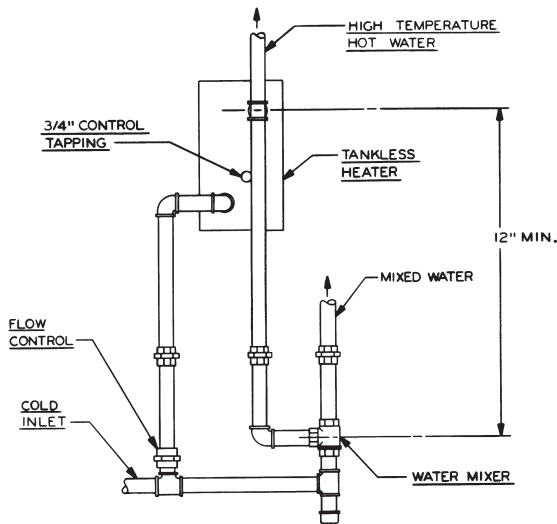

Figure 3.3: Tankless Coil Piping, Steam Boiler
1. If a tankless coil is used (item 9), install as pictured. On water boilers, install in opening in front section. On steam boilers, install in opening in rear section. For suggested piping of tankless water heaters refer to Figures 3.3 and 3.4.